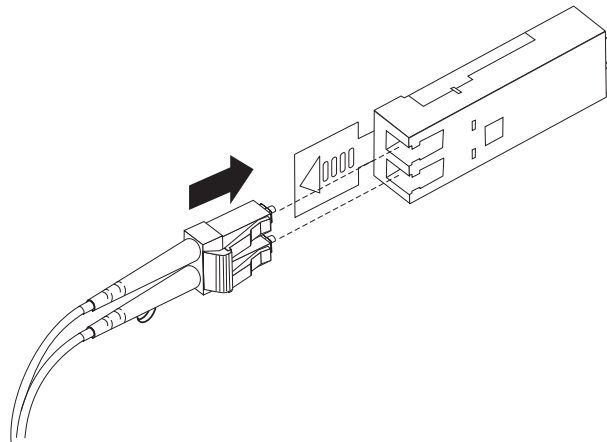

Figure 40. Inserting an LC-LC fibre-channel cable into an SFP module
4. Carefully insert this end of the LC-LC cable into an SFP module that is installed in the DS4700 Express. The cable connector is keyed to ensure it is inserted into the SFP module correctly. Holding the connector, push in the cable until it clicks into place, as shown in Figure 40.